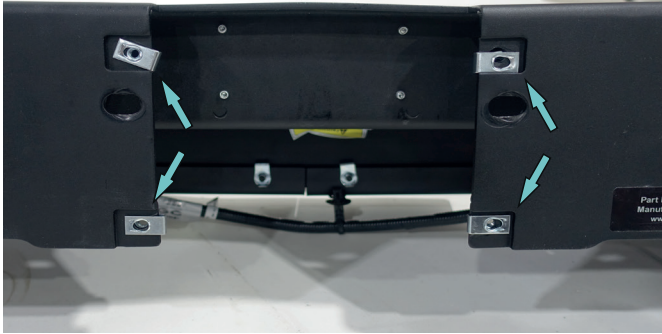

Fig. 35
34. Install U-nuts M6 (item J) on bumper body (item 1) as shown in fig.35.